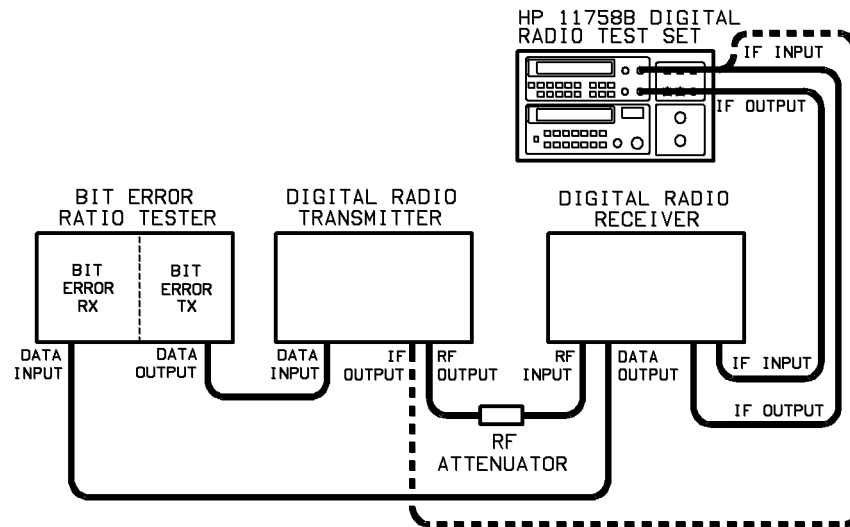

Figure 3-24. Susceptibility Measurement
1. Connect the equipment as shown in Figure 3-24.